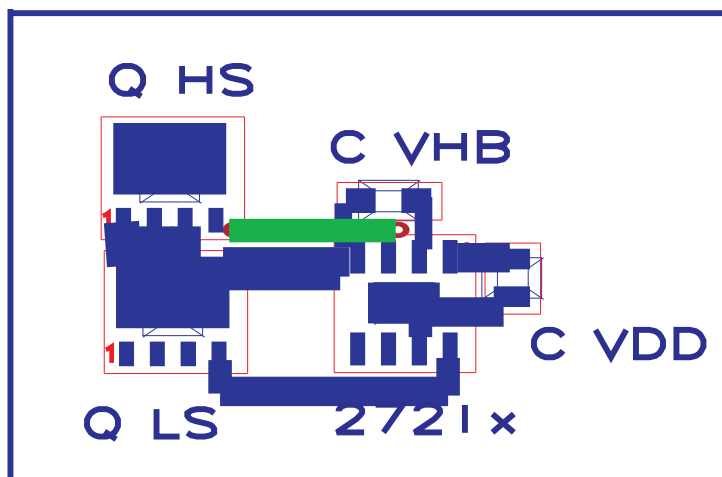

图 24. UCC27210/11 Component Placement
- Locate the  $V_{DD}$ - $V_{SS}$  and  $V_{HB}$ - $V_{HS}$  (bootstrap) capacitors as close as possible to the device (see Figure 24).
- Pay close attention to the GND trace. Use the thermal pad of the DDA and DRM package as GND by connecting it to the VSS pin (GND). The GND trace from the driver goes directly to the source of the MOSFET but should not be in the high current path of the MOSFET(S) drain or source current.